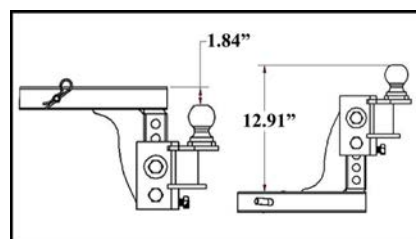

Figure 2: Hitch bar can be used in the raised or dropped position.
•Insert the hitch bar (2) into the hitch box and install a pull pin (3) and spring clip (4). Hitch bar (2) may be used in either the up or down position (see Figure 2).
•**NOTE: The ball height should be greater than coupler height by approximately 3/4" to 1" (see Figure 2) to compensate for vehicle squat. For vehicles with air springs, air shocks or an automatic leveling system, check vehicle owner's manual. Unless otherwise specified make sure you adjust the ball mount and do the trailer set up with the trailer and vehicle loaded as they will be when towing. Raised balls usually have reduced load ratings. Ball rating MUST equal or exceed trailer GVWR.**